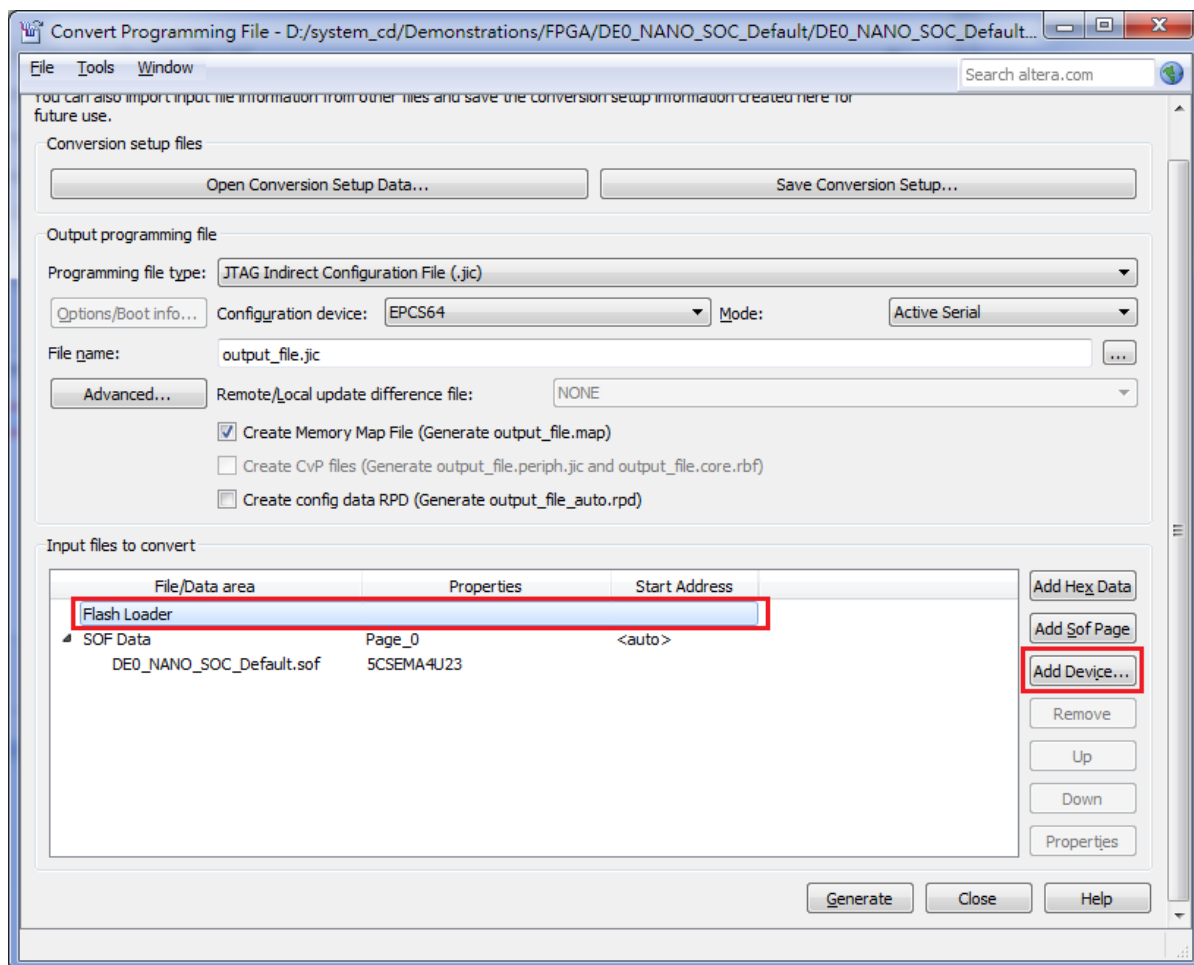

Figure 8-4 Click on the “Flash Loader”
11. Click on the **Flash Loader** and click **Add Device**, as shown in **Figure 8-4**.